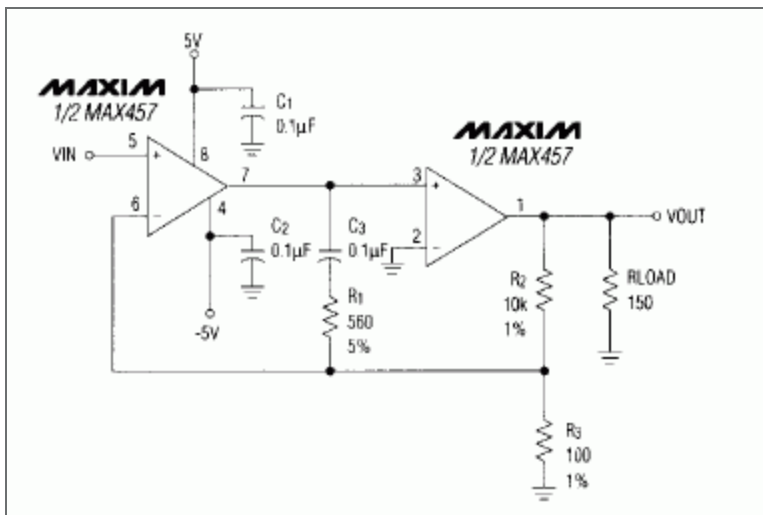

Figure 1. This composite amplifier, based on a dual video-amplifier IC, provides a 40dB gain and 10MHz bandwidth while driving a  $150\Omega$  load.
You can build a composite amplifier featuring high gain, wide bandwidth, and good DC accuracy by cascading the sections of a dual video amplifier and adding two appropriate phase-compensation components. In the example shown (**Figure 1**) the op amp drives a  $150\Omega$  load and provides a closed-loop gain of 40dB. You can obtain 40dB by cascading two 20dB sections, but that arrangement allows significant output distortion. (The video amplifiers normally operate at low gain while driving  $75\Omega$  or  $150\Omega$  loads.
The approach taken in Figure 1 minimizes output distortion. The first amplifier, operating with no (DC)
The table in Figure 1 gives DC performance for the closed-loop amplifier. Gain resistors  $R_2$  and  $R_3$  measured 99.78 and 9965Ω, giving a theoretical gain of  $R_2 + R_3 / R_3 = 1000.870V/V$ —which is very close to the value of 100.825 measured for range -2V to 2V.